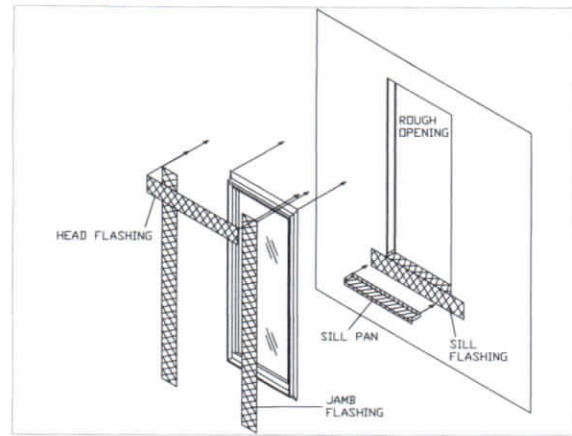

Figure 1
2. An overview of the proper flashing sequence is shown in figure 1.